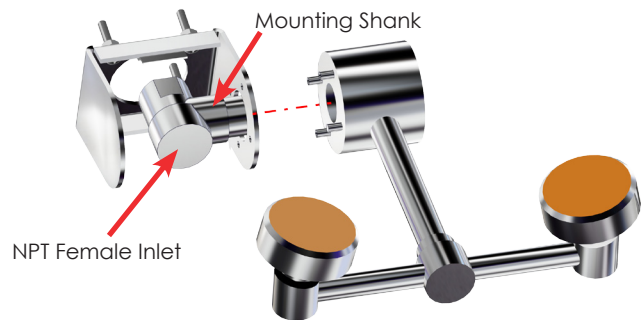

Figure 4: Locate NPT female Inlet & Mounting Shank
3. After attaching the housing (SMS0058) to the sink basin, separate the 1/2" NPT female inlet and mounting shank from the eye wash unit. Place these within the housing (see Figure 4).